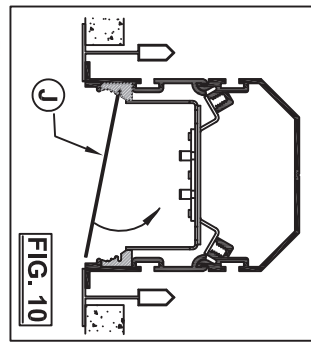

FIG. 10
- STEP 8: REMOVE AND DISCARD FLANGE SPACER BRACKET. INSTALL PLASTER SHIELDS PERIMETER FLANGE PERFORATED SECTION (H) OF FIXTURE AND EXTENDS ONTO ADJOINING DRYWALL. CAUTION: DO NOT ALLOW TAPE TO ENCRASH ON PLASTER FLOAT GUIDE (G) OF FIXTURE FLANGE. FLOAT AND FINISH CEILING AS REQUIRED, USING SHIELD PROVIDED TO KEEP FLOATING COMPOUND OUT OF LIGHTED OPENING.
- STEP 9: INSTALL MOISTURE BARRIER IN ACCORDANCE WITH FACTORY SHOP DRAWING AND FIG. 10. MOISTURE BARRIER SHOULD SPAN ALL LENS JOINTS.